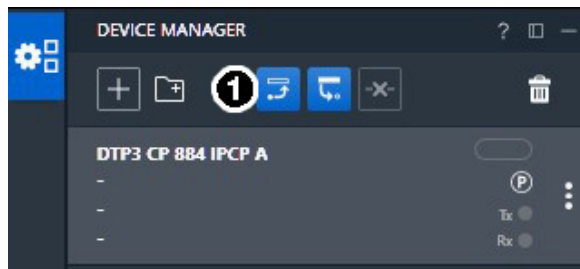
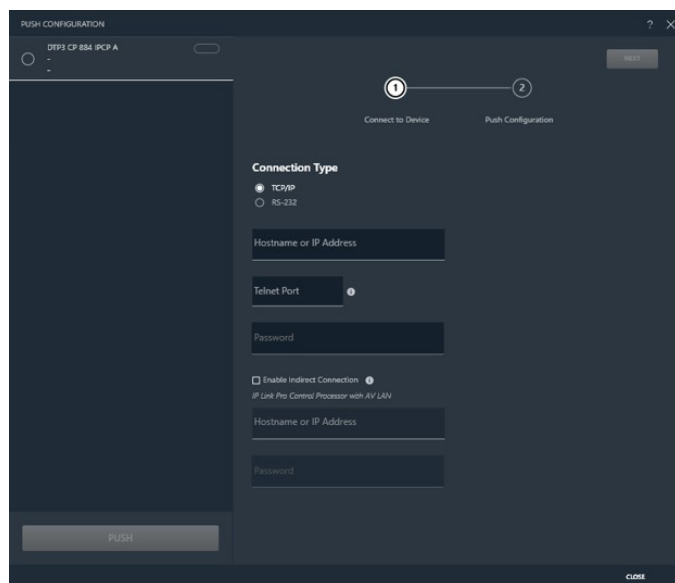

Figure 24. Push Button on the DSP Toolbar
Figure 25. Pushed Configuration Box
4. Click the **Push** button (see figure 24, ①). The Push Configuration box opens (see figure 25).